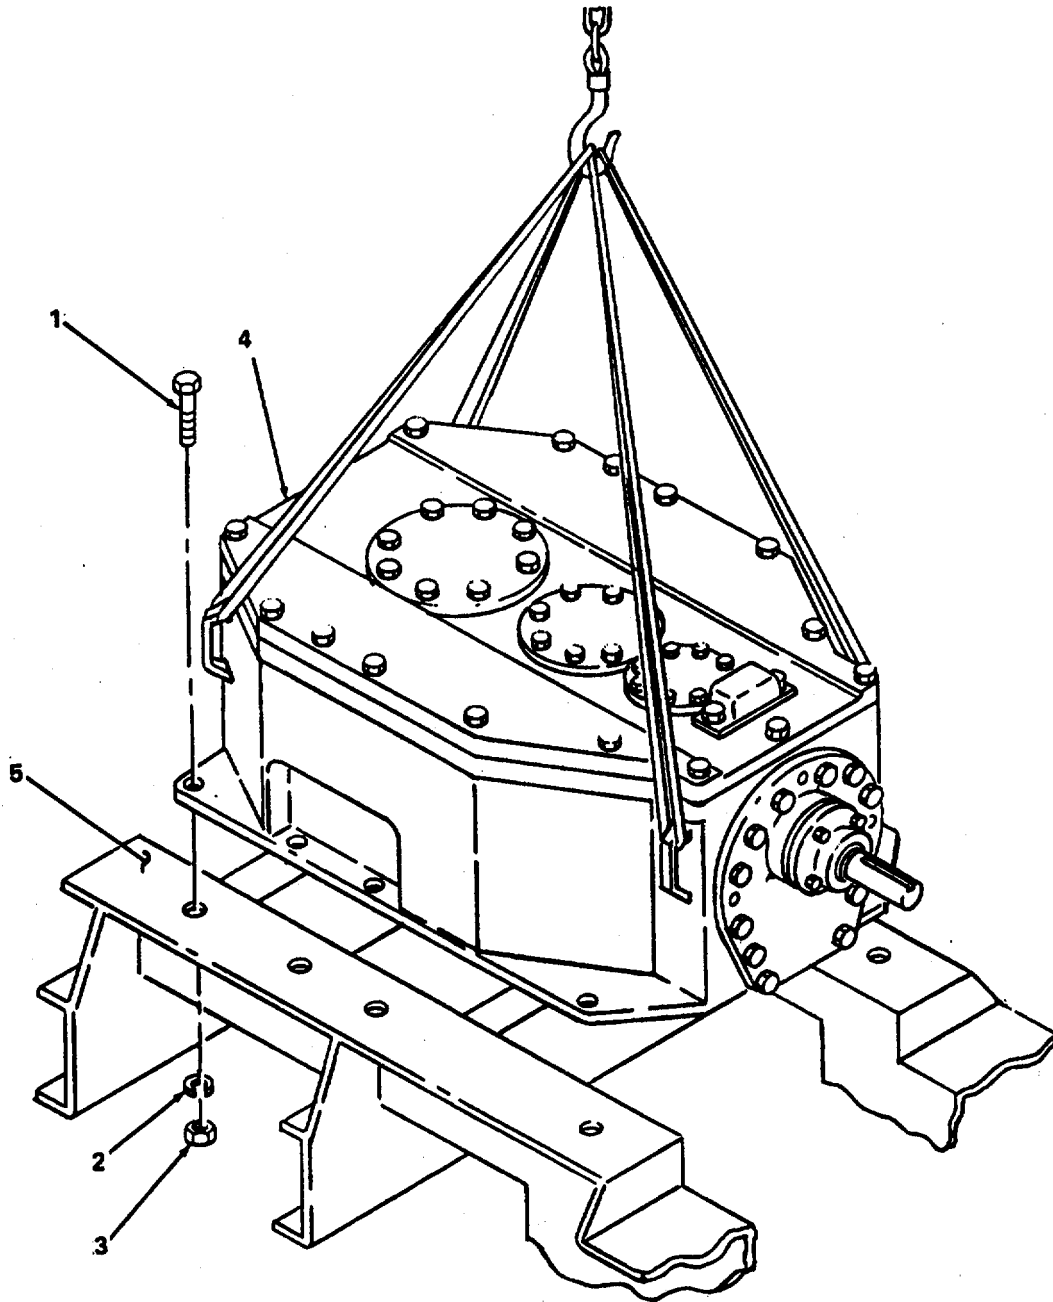

Figure 5-14. Speed Reducer Removal.
- (2) Disconnect speed reducer from mounting.
Remove eight screws (1, figure 5-14), eight lockwashers (2), and eight nuts (3) securing speed reducer (4) to mounting (5).
- (3) Remove speed reducer from mounting.